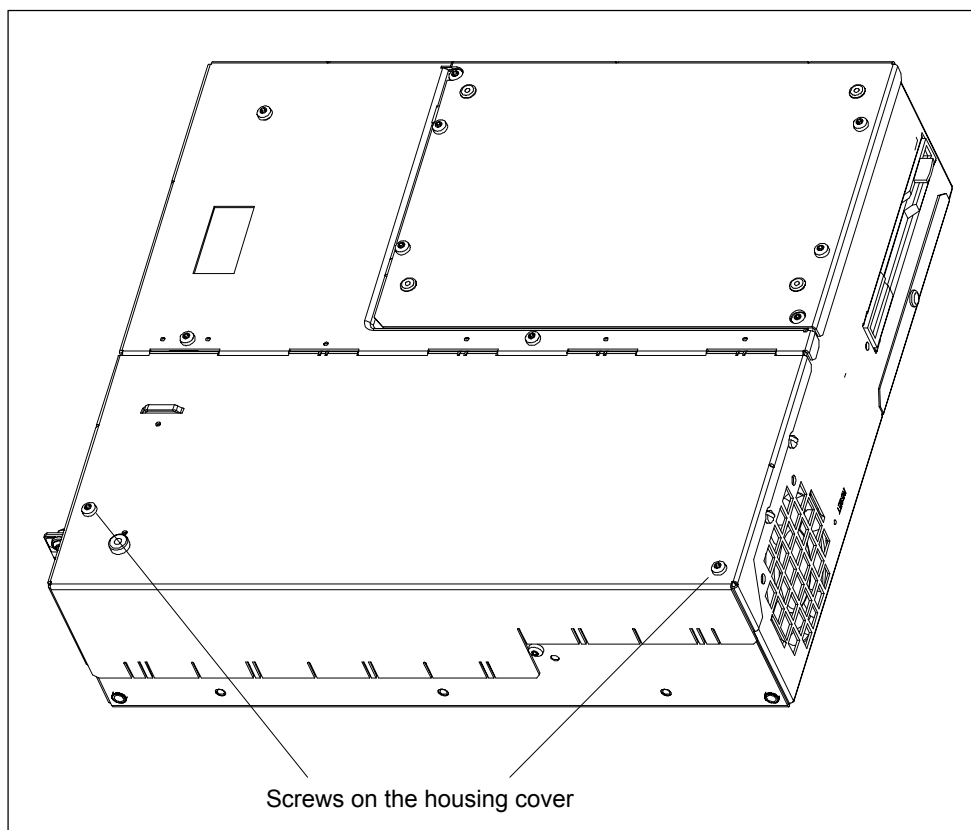

Figure 4-1 Computing unit prepared for opening
3. Undo the two screws (refer to Figure 4-1) on the housing cover.